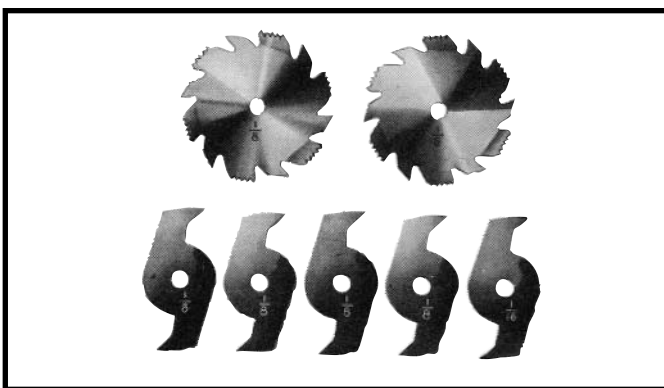
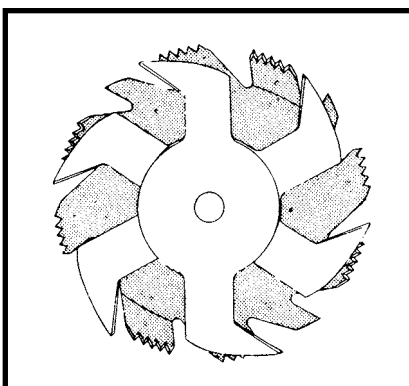
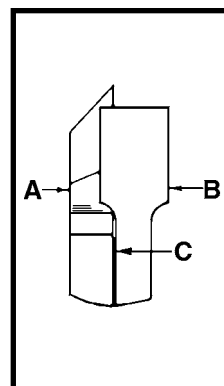

Fig. 54
Fig. 55
Fig. 56
Dadoing is cutting a rabbet or wide groove into the work. Most dado head sets are made up of two outside saws and four or five inside cutters, as shown Fig. 54. Various combinations of saws and cutters are used to cut grooves from 1/8" to 13/16" wide for use in shelving, making joints, tenoning, grooving, etc. The cutters are heavily swaged and must be arranged so that this heavy portion falls in the gullets of the outside saws, as shown in Fig. 55. The saw and cutter overlap is shown in Fig. 56, (A) being the outside saw, (B) an inside cutter, and (C) a paper washer or washers which can be used as needed to control the exact width of groove. A 1/4" groove is cut by using the two outside saws. The teeth of the saws should be positioned so that the raker on one saw is beside the cutting teeth on the other saw.